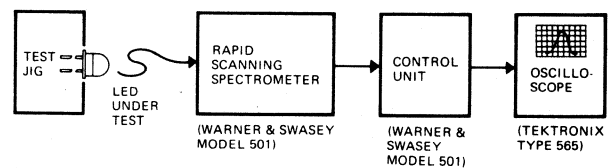

Fig. 9. Block Diagram of Wavelength Measuring Equipment
**Measurement Techniques and Procedures.** Wavelength parameters can be measured using a Warner and Swasey Model 501 "Rapid Scanning Spectrometer" (or equivalent), together with an oscilloscope that displays the spectral wavelength information with wavelength linear in time, (see Figure 9). An internally calibrated radiation source permits the Model 501 to make absolute measurements of wavelength. It can also generate a display of change in wavelength distribution of energy as a function of time, i.e., energy spectrum. These capabilities are accomplished by means of various filters, gratings, and detectors. Wavelengths ranging from ultraviolet (at 2500 Angstroms) to infrared (at 14.5 microns) can be measured.